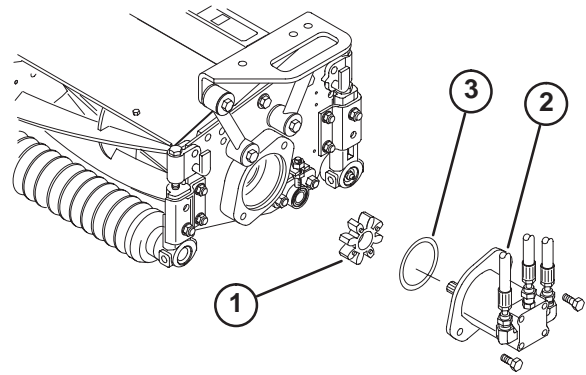
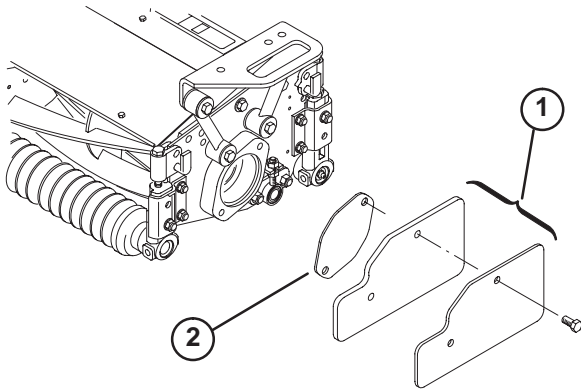

Figure 23
Figure 22
2. Remove weights and gasket (Fig. 22) from inside end of right hand cutting unit. Remove plug from bearing housing on outside end of right hand cutting unit and install weights and gasket. Locate spider coupling (Fig. 23) shipped in bearing housing.